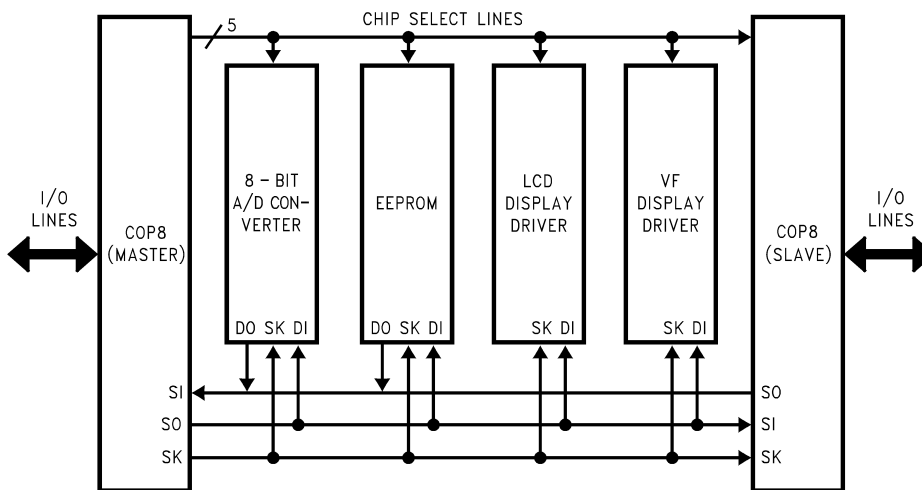

Figure 5-26. MICROWIRE/PLUS Application
MICROWIRE/PLUS is a serial SPI compatible synchronous communications interface. The MICROWIRE/PLUS capability enables the device to interface with MICROWIRE/PLUS or SPI peripherals (i.e. A/D converters, display drivers, EEPROMs etc.) and with other microcontrollers which support the MICROWIRE/PLUS or SPI interface. It consists of an 8-bit serial shift register (SIO) with serial data input (SI), serial data output (SO) and serial shift clock (SK). Figure 5-26 shows a block diagram of the MICROWIRE/PLUS logic.
Setting the BUSY bit in the PSW register causes the MICROWIRE/PLUS to start shifting the data. It gets reset when eight data bits have been shifted. The user may reset the BUSY bit by software to allow less than 8 bits to shift. If enabled, an interrupt is generated when eight data bits have been shifted. The device may enter the MICROWIRE/PLUS mode either as a Master or as a Slave. Figure 5-26 shows how two microcontroller devices and several peripherals may be interconnected using the MICROWIRE/PLUS arrangements.